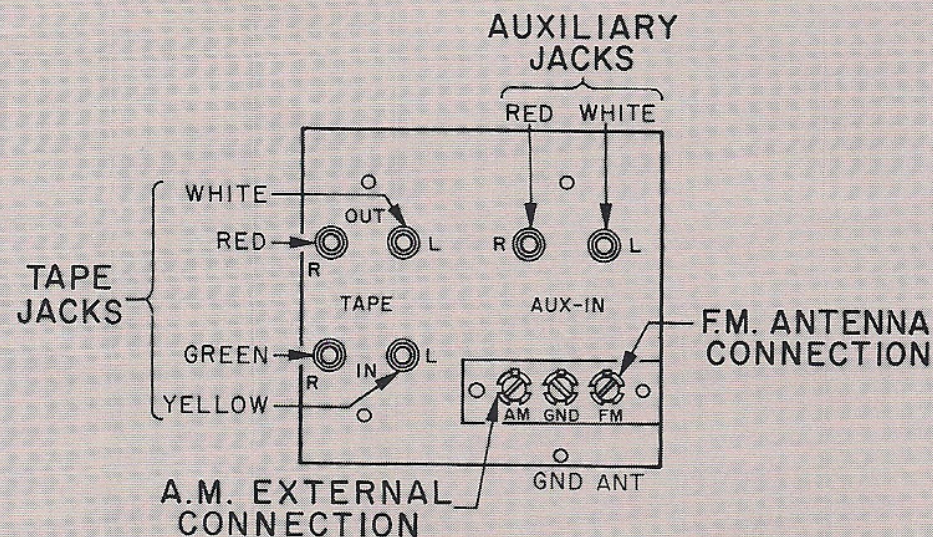

Figure 3
**AUX INPUT, TAPE INPUT and TAPE OUTPUT JACKS (Fig. 3)**—These jacks allow you to connect additional accessories to expand your stereo system's capabilities. For directions, see "HOW TO USE ACCESSORIES WITH YOUR ZENITH STEREO SYSTEM" on page 20.